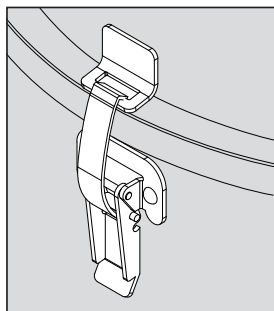

FIGURE 2
5. Make sure the Wave canister is properly sealed by insuring that both canister clips are securely fixed in their designated lateral supports, and not directly on the rim of the canister (figure 2).